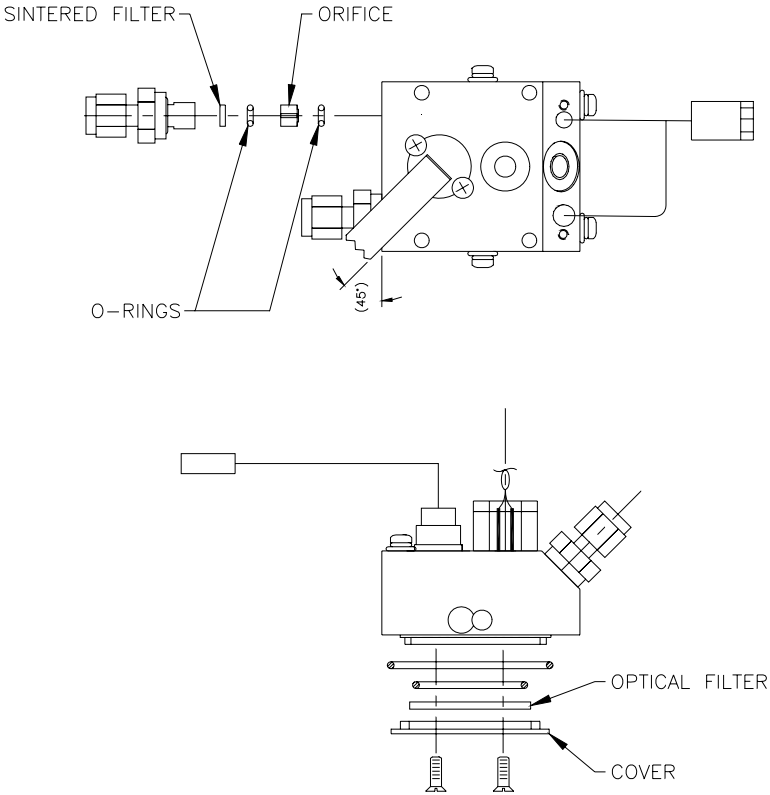

Figure 12. Reaction Cell Cleaning
3. Refer to Figure 12 and remove the optical filter from the cell.
5. Refer to Figure 12 and remove and replace the sintered filter from under the O₃ inlet fitting. Be sure to use new O-rings. If desired the orifice can be removed and cleaned or replaced.